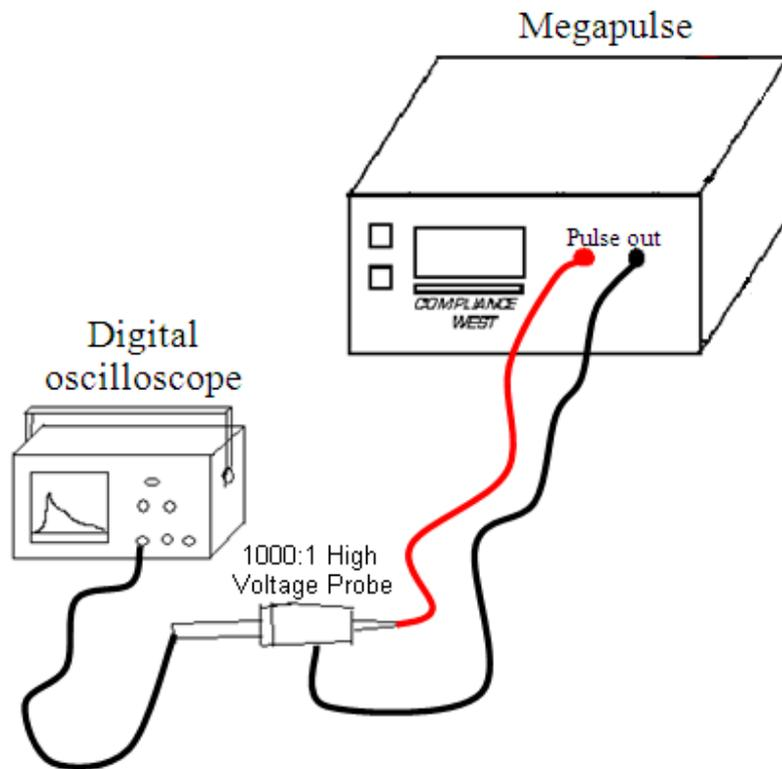

Figure 3. Waveform Measurement Setup
3. Connect the ends of the test leads to an appropriate measuring instrument (typically an oscilloscope with a high-voltage probe). Note that the **RETURN** lead is referenced to the chassis ground of the tester. See Figure 3 as an example.